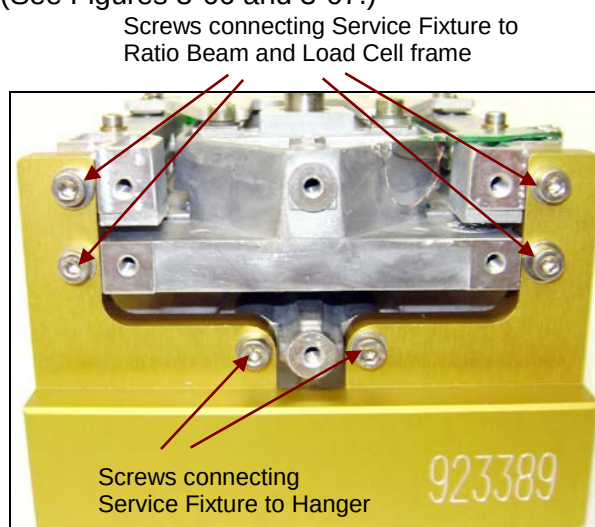

Figure 3-66. Service Fixture for 2 and 1 decimal Precision Load Cell, attached to Hanger, Ratio Beam, and Load Cell frame.
3. Install the Service Fixture and Hanger to the frame and the Ratio Beam. Hold the Hanger by hand while inserting the two screws that secure the Fixture to the Hanger. Then insert the four screws that secure the Fixture to the Load Cell frame and the Ratio Beam. (See Figures 3-66 and 3-67.)